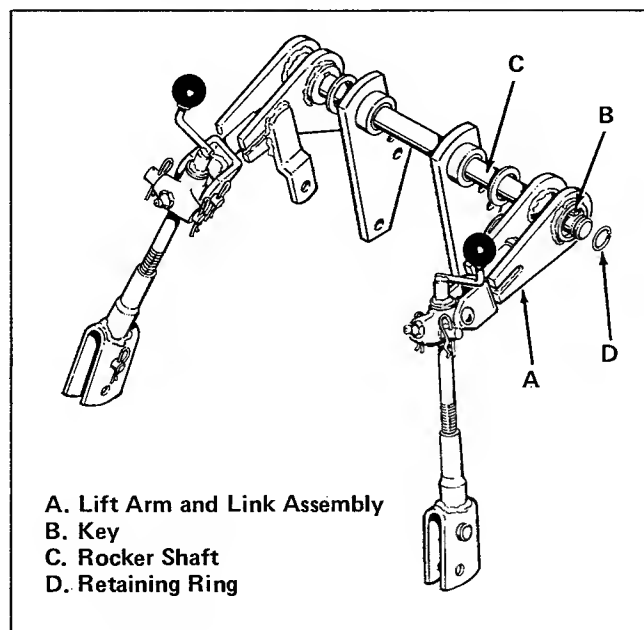

Figure 3. Lift Arm and Link Assembly
5. To install right-hand lift arm and link assembly (item A, figure 3) be sure key (item B) is in